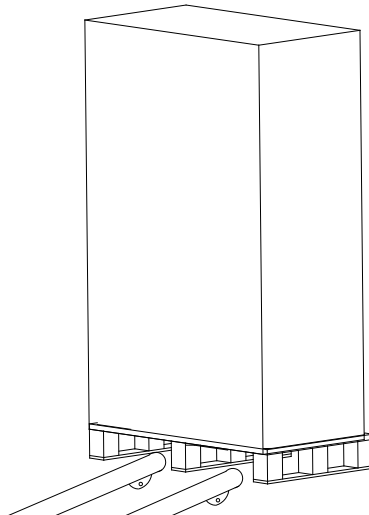

Fig.2-5 Transport to the designated site
2. Transport the equipment to the designated site by forklift, as shown in Fig.2-5.